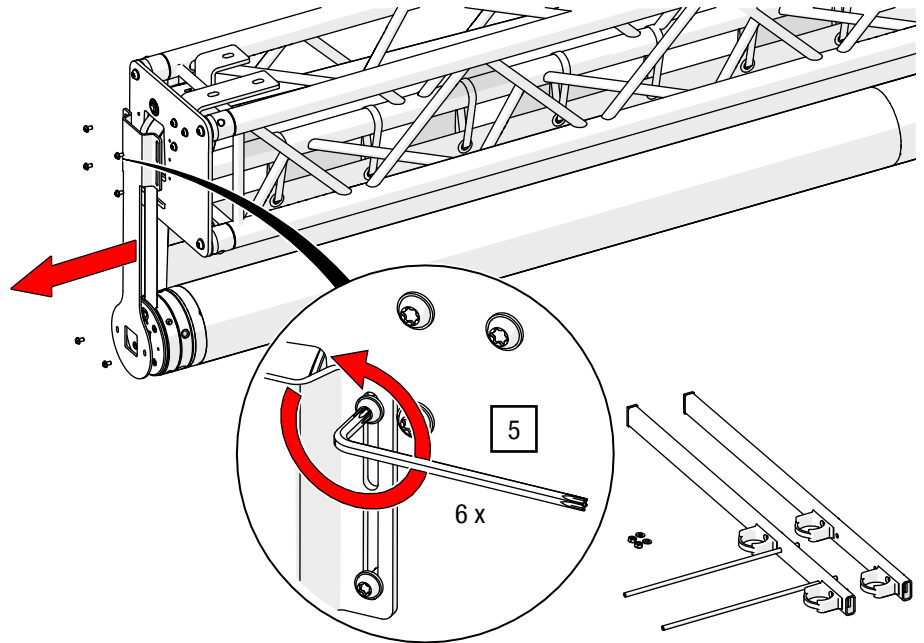

Fig. 15: Release transport lock
5. Loosen the locking plates on the sides with a TORX® key T30 (see Fig. 15).